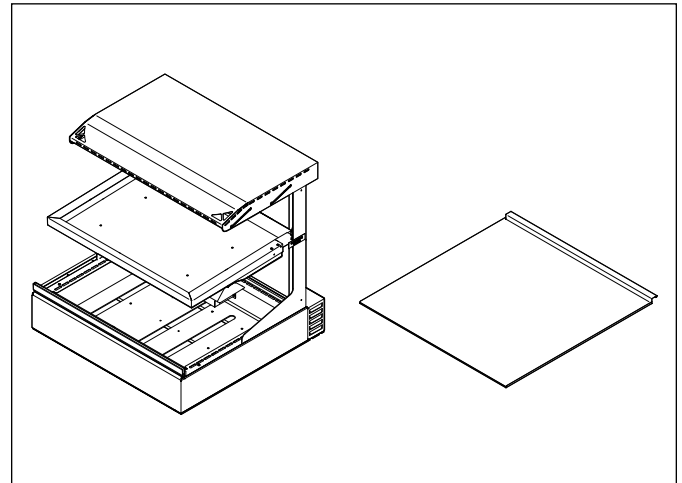

Figure 1. DCV-200 and Crumb Tray
3. Wash the Crumb Tray (Figure 1) in soap and water. Wipe all surfaces of the unit with a hot damp cloth.